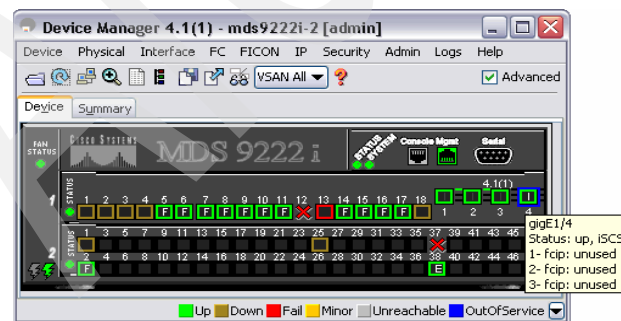

Figure 7-37 Device Manager Interface gigE2/2
8. The Device Manager panel (Figure 7-37) shows that interface 4 in the MSM module is up (shows as green) and that iSCSI is enabled in this interface (small mark inside the interface).